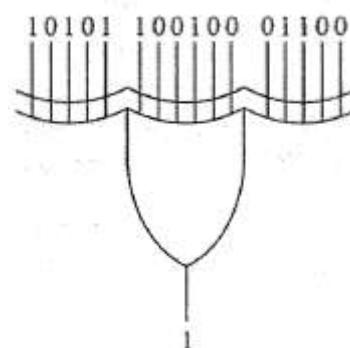

Figure 4.34: Odd parity Checker
- In this case, you sometimes will see an extra bit added to the original binary number to produce a new binary number with odd parity (Figure 4.34).
- Here's how it works (Figure 4.34):